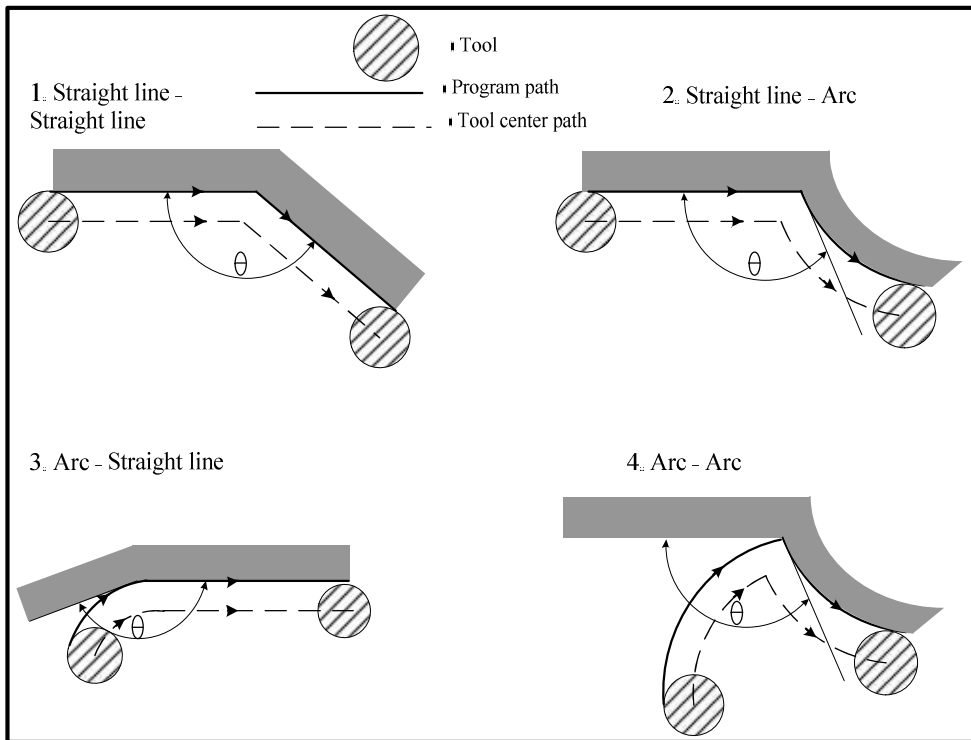

Fig. 4-8-2-1
3. When G62 is specified and the tool radius compensation function is applied and the inner corner is machined, the feedrate is automatically adjusted at both ends of the corner. There are four types of inner corner as shown in Figure 4-8-2-1. In the figure: $2^\circ \leq \theta \leq \theta_p \leq 178^\circ$. θ_p is set by Data Parameter **P144**.